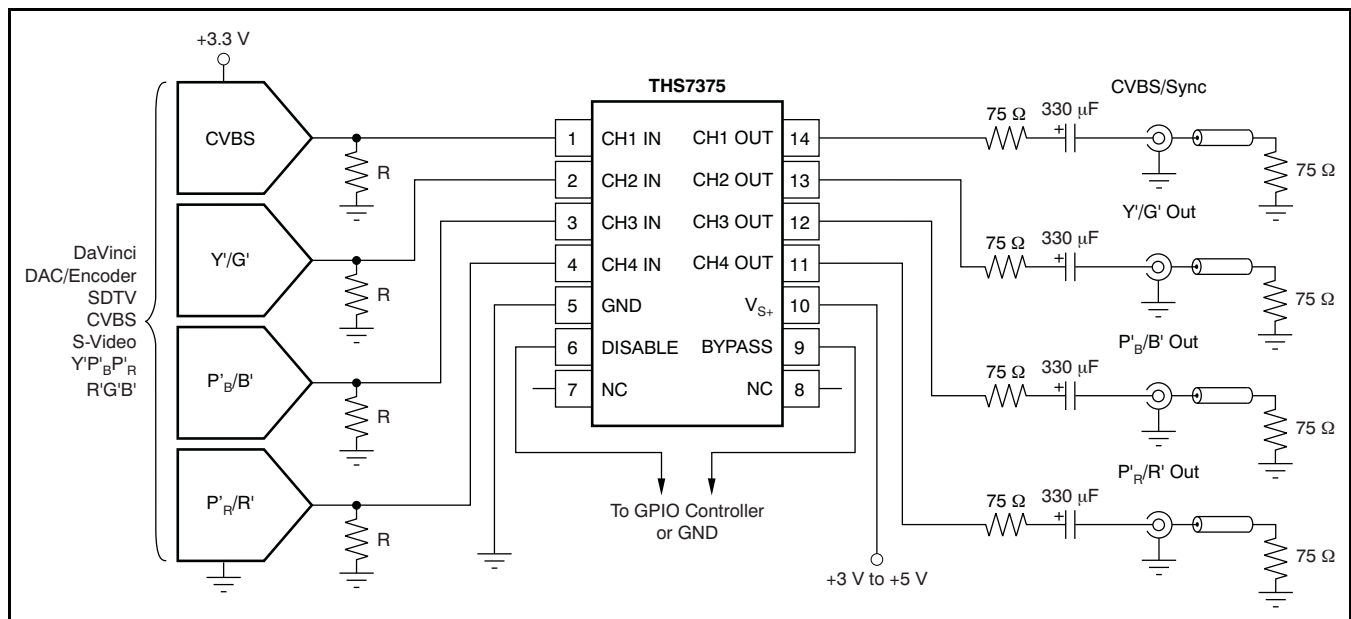

Figure 48. Typical SDTV CVBS/ $Y'P'_BP'_R$  Inputs from DC-Coupled Encoder/DAC with AC-Coupled Line Driving
A typical application circuit that uses the THS7375 as a video buffer is shown in Figure 48. It shows a DAC or encoder driving the input channels of the THS7375. One channel is a composite video (CVBS) channel of a standard definition (SD) video system. The other channels are the component video  $Y'P'_BP'_R$  (sometimes labeled  $Y'U'V'$  or incorrectly labeled  $Y'C'_BC'_R$ ) signals of a 480i or 576i system. These channels could easily be the S-Video  $Y'/C'$  channels or the  $R'G'B'$  channels of a SCART system.